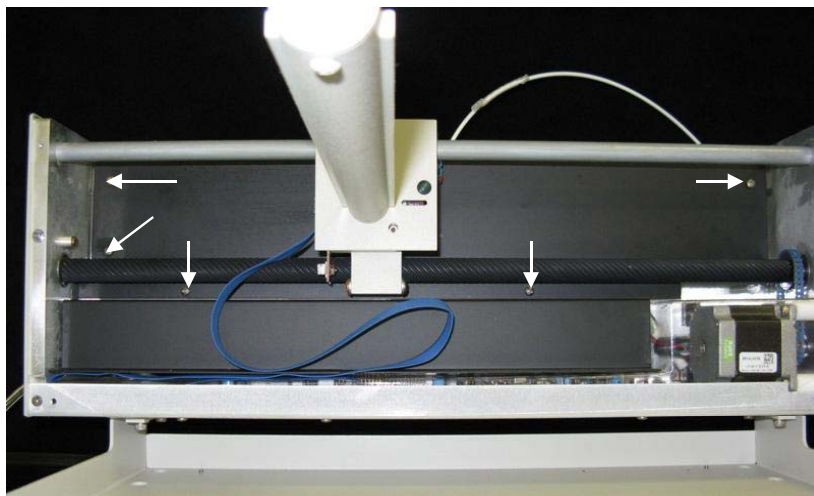

Figure 1-13. View of new shield and splashguard inside the ASX-520.
10. If you have a newer shield/splash guard combination proceed as follows. Locate and remove the 5 screws holding the shield in place. See Figure 1-13.